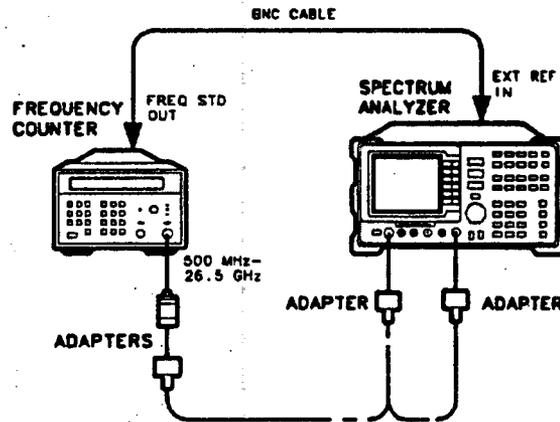

Figure 2-29. Frequency Tracking Range Setup
2. Remove the rear-panel jumper that is between the 10 MHz REF OUTPUT and EXT REF IN jacks. Connect the frequency counter FREQ STD OUT connector to the spectrum analyzer EXT REF IN connector as shown in Figure 2-29.
7. Connect the RF OUT 50 Ω connector to the microwave frequency counter input as shown in Figure 2-29.